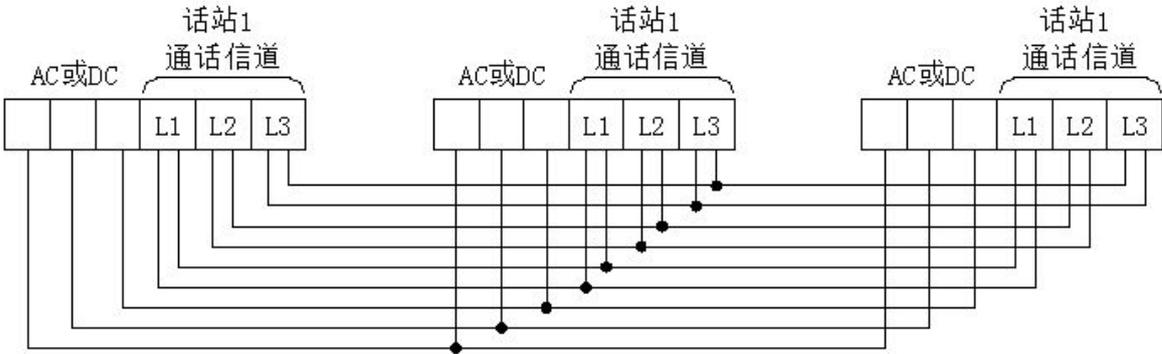

Figure 9
4.3.5 Cable shield electromagnetic interference is mainly used to isolate the site , should be connected in a single- grounded, Figure 9 Figure 9